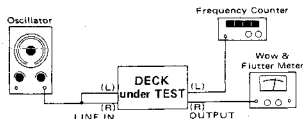

Fig. 5-9
1. Connect a frequency counter to the deck as shown in Fig. 5-9.
1. Connect a wow-and-flutter meter to the deck as shown in Fig. 5-9.